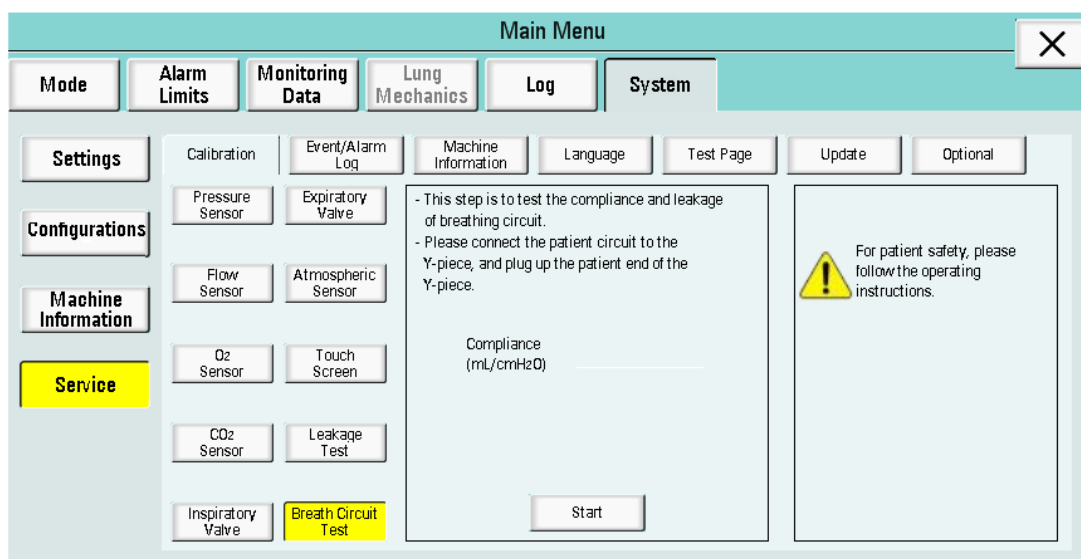

Figure 6-69
(9) Breath Circuit Test Calibration: Click “Breath Circuit Test” to enter the test interface. A message is displayed: “This step is to test the compliance and leakage of breathing circuit. Please connect the patient circuit to the T-piece, and plug up the patient end of the T-piece”, as shown in Figure 6-69.